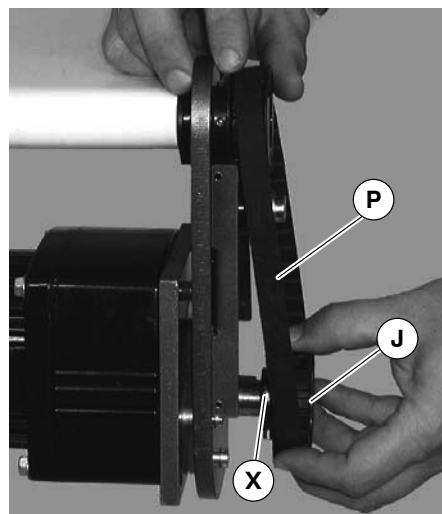

Figure 19
**NOTE:** If drive pulley (J of Figure 19) is replaced, wrap timing belt around drive pulley and complete step 3.
6. Loosen drive pulley set screws (X of Figure 19). Remove drive pulley (J) and timing belt (P).
**NOTE:** Drive pulley (J of Figure 19) is removed. Wrap timing belt around drive pulley and complete step 10.